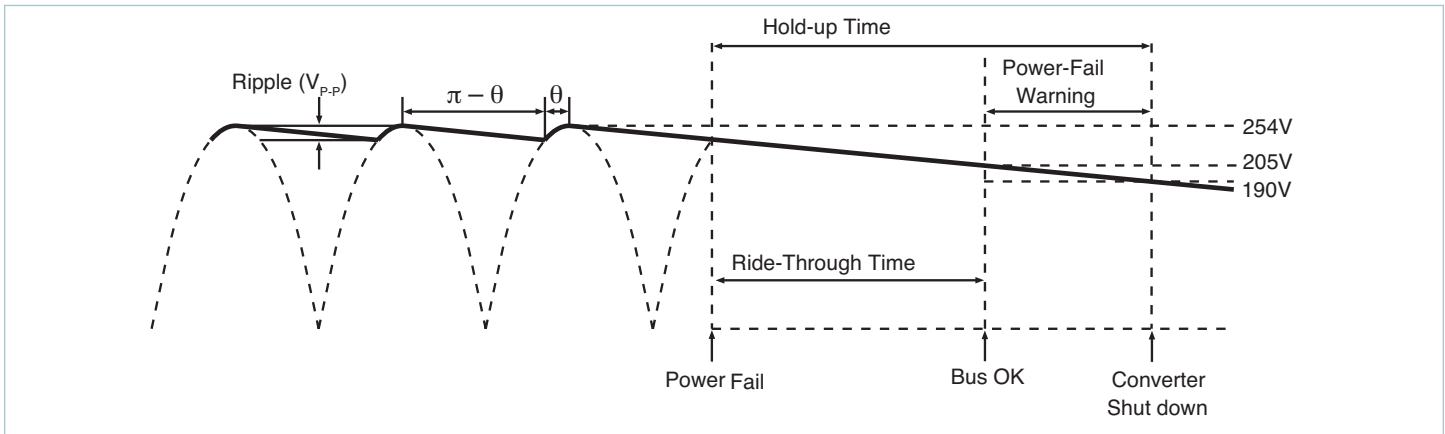
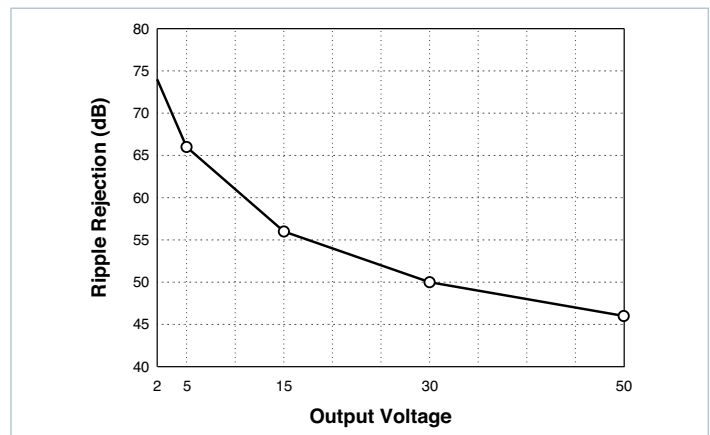

Figure 7.7 — General timing diagram of bus voltage following interruption of the AC mains
Figure 7.11 — Converter ripple rejection vs. output voltage (typical)
The power-fail warning time (Δt) is defined as the interval between (BOK) and converter shutdown (EN) as illustrated in Figure 7.7. The Bus OK and Enable thresholds are 205V and 190V, respectively. A simplified relationship between power fail warning time, operating power, and bus capacitance is obtained by inserting these constants:
For example, a converter whose output is 15V and nominal input is 300V will provide typically 56dB ripple rejection, i.e., 10V_{P-P} of input ripple will produce 15mV_{P-P} of output ripple. (Figure 7.11) Equation 3 is again used to determine the required capacitance. In this case, V_1 and V_2 are the instantaneous values of bus voltage at the peaks and valleys (Figure 7.7) of the ripple, respectively. The capacitors must hold up the bus voltage for the time interval (Δt) between peaks of the rectified line as given by:
(Figure 7.7)
Converter: Figure 7.11 is used to determine the ripple rejection of the DC-DC converter and indicates a ripple rejection of approximately 60dB for a 12V output. If the ripple on the bus voltage is 12V_{AC} and the ripple rejection of the converter is 60dB, the output ripple of the converter due to ripple on its input (primarily 120Hz) will be 12mV_{P-P}.